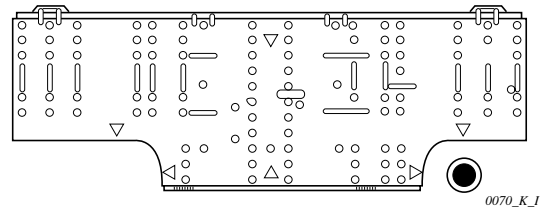

Fig. 3-51
(1) Attach the rear panel to the wall with the 8 screws provided. (Fig. 3-51)